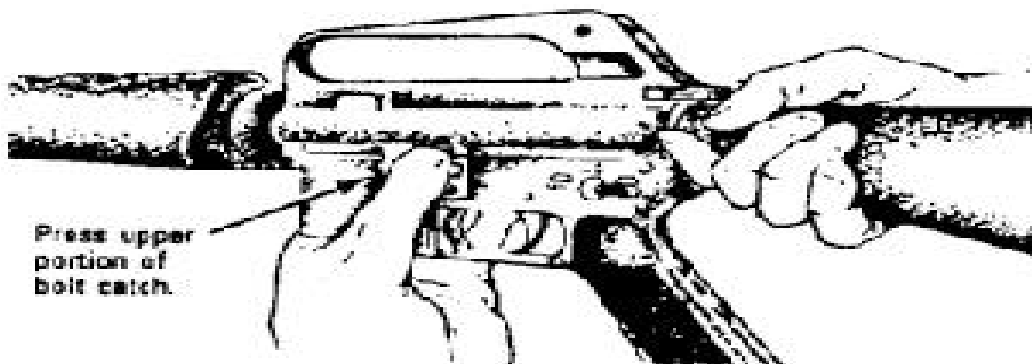

Figure E-4 Releasing the bolt
f. Allow the bolt to go forward by pressing the upper portion of the bolt catch (figure E-4).